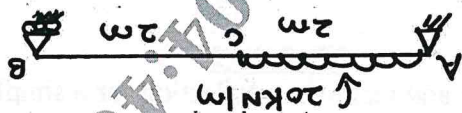

Fig Q3(b)
b. Determine maximum slope and maximum deflection for the beam shown in Fig Q3(b) using Macaulay's method.